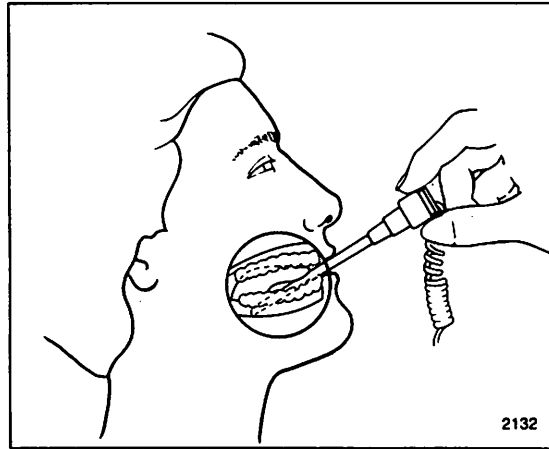

Figure 2-6. Probe Placement
- f. For oral temperatures using the blue 1880L (oral) probe, have patient open mouth slightly, then gently insert the probe tip and slide it back under the front of the tongue, along the gumline, to the sublingual (heat) pocket where the richest blood supply is located. (See figure 2-6.)